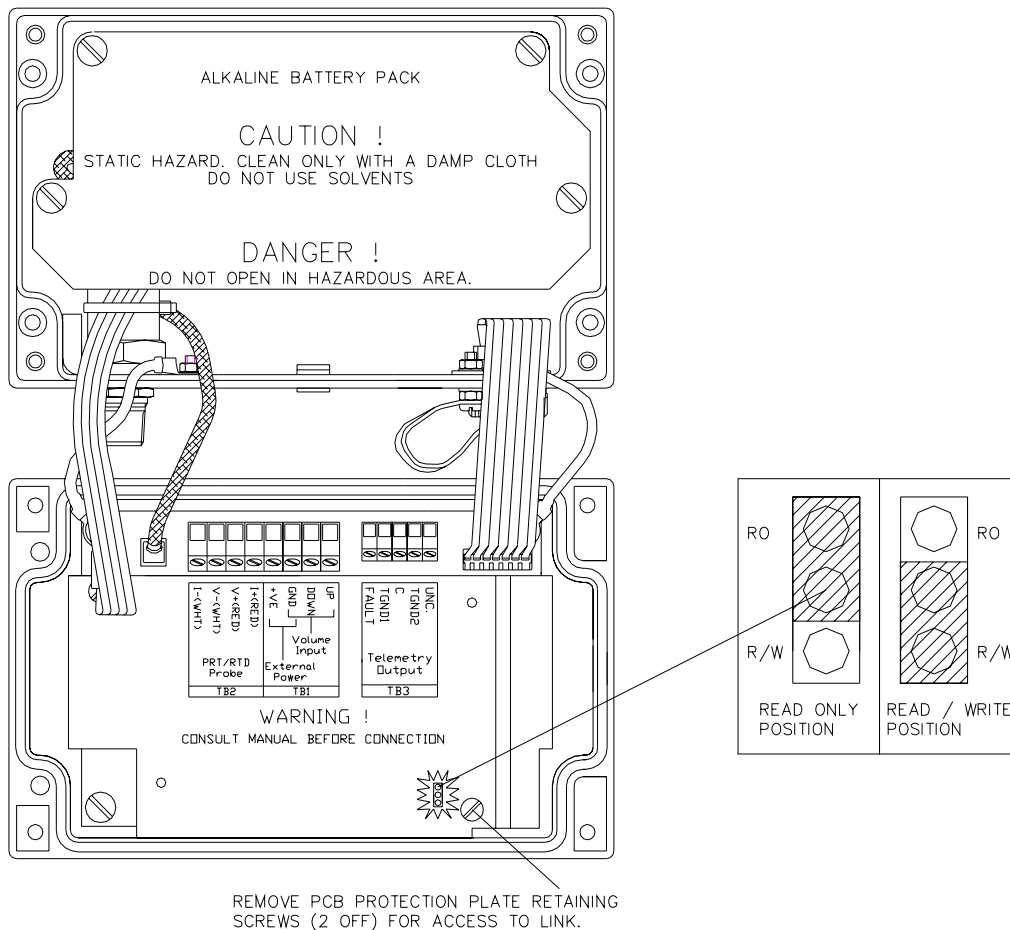

Figure 4 – Setting the *Weights and Measure Link (Hardware Link).*
5. Identify the *Read / Write* protection link; remove from the *Read Only* position and replace in the *Read / Write* position. Refer to Figure 4 (*Setting the Weights and Measures Link*)